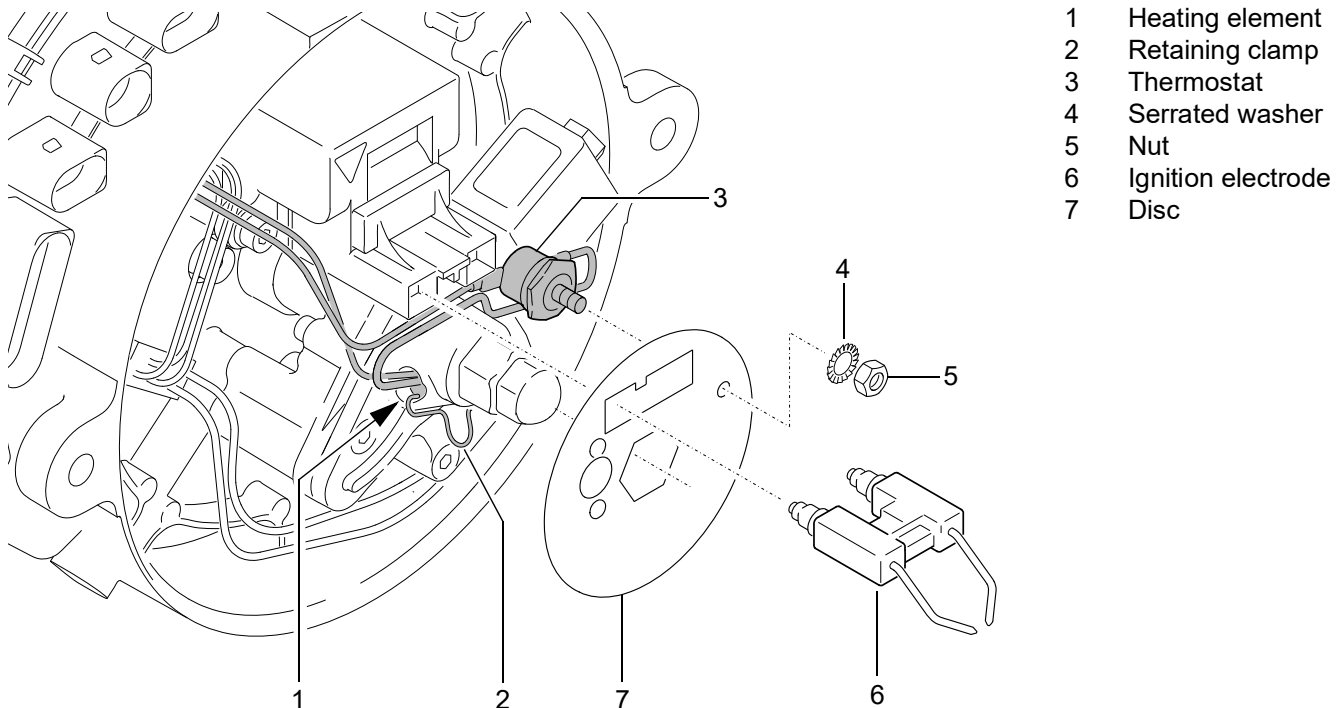

Fig. 807 Nozzle block preheater removal and installation
3. Lift off ignition electrode (6, Fig. 807) from the electro-
4. Remove the nut (5, Fig. 807) and the serrated washer (4) which attach the thermostat (3) to the disc (7) and remove the thermostat.
5. Remove disc (7).
6. Remove retaining clamp (2) of the heating element (1) and pull the heating element out the nozzle block of the fuel pump.
1. Insert heating element (1, Fig. 807) into the nozzle block of the fuel pump and secure it with the retaining clamp (2).
2. Bring the thermostat (3) into installation position.
3. Fit the disc (7) onto the nozzle holder of the fuel pump and align it so, the ignition electrode (6) may inserted into the electronic ignition unit.
4. Insert ignition electrode (6) into the electronic ignition unit.
5. Attach thermostat (3) to the disc (7) using the serrated washer (4) and the nut (5).